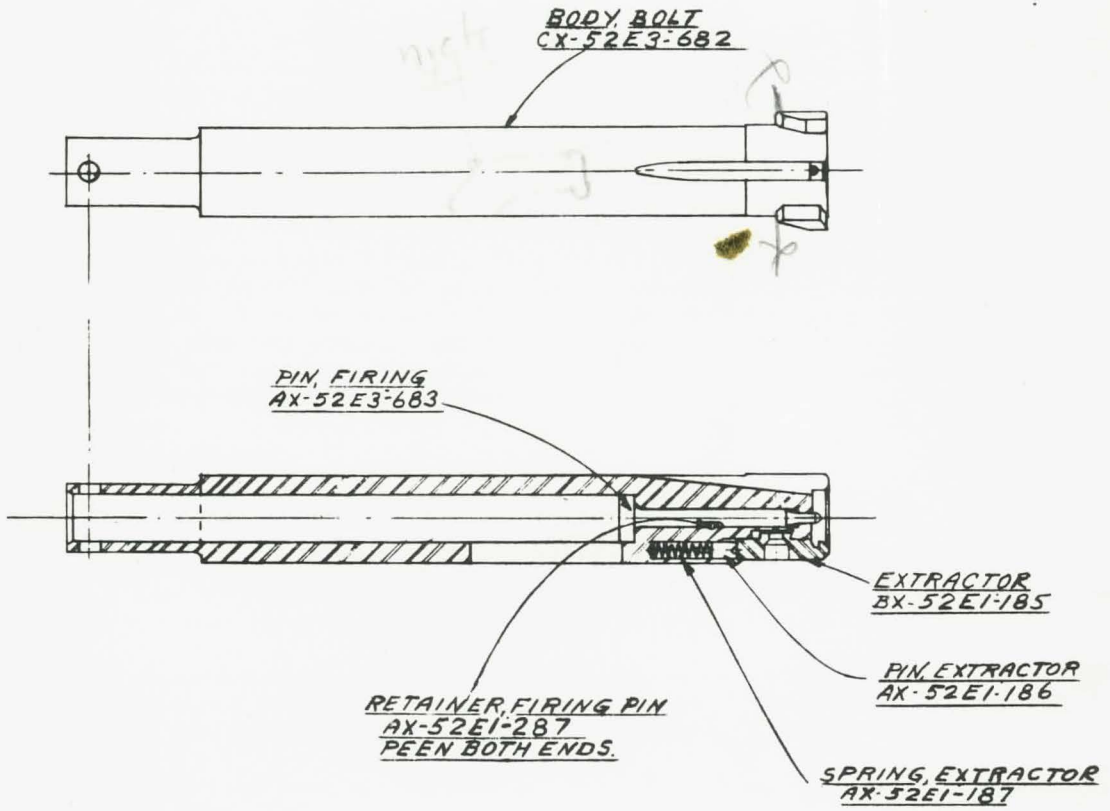

FIG 7 - BOLT ASSEMBLY
- a. Remove retainer, firing pin; elevate forward end of bolt to allow firing pin to fall free. See Fig. 7, Page 16.
- a. Insert extractor spring, then extractor pin, small diameter first, into hole in recess on forward end of bolt. See Fig. 7, Page 16.